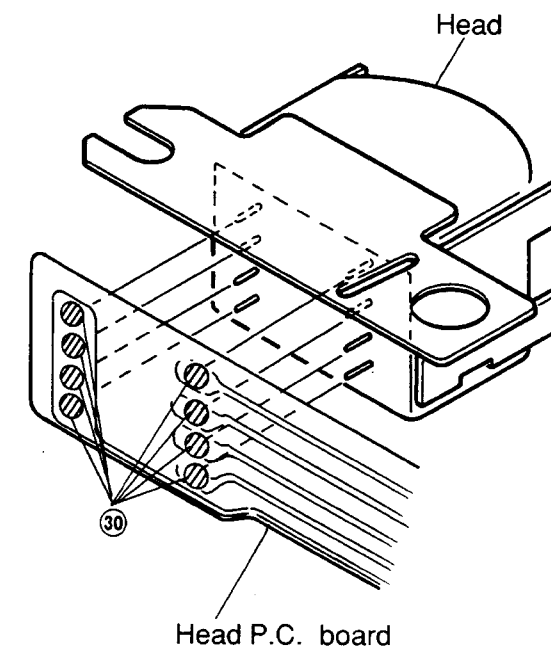

Figure 22
- (2) Remove solder ㉒ and remove the head from the head P.C. board as shown in Figure 22.
- (3) After replacement, mount the new head following the removal steps in the reverse order.